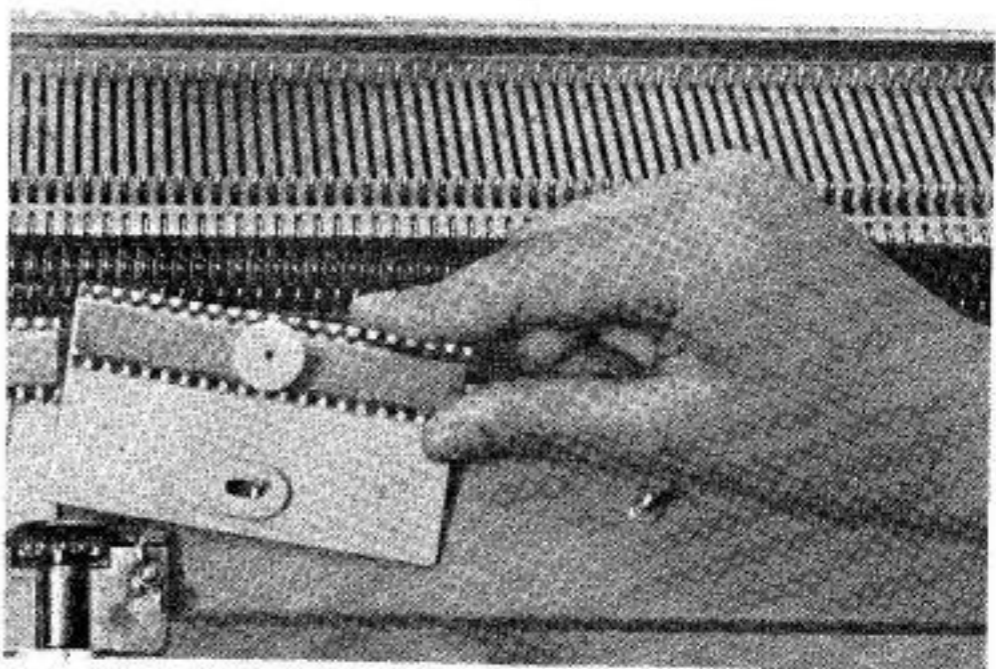

Fig. 15
(8) Remove all V.P.K. units not in use. (See Fig. 15.)
(9) Release the Locking Screws and lower the Attachment.